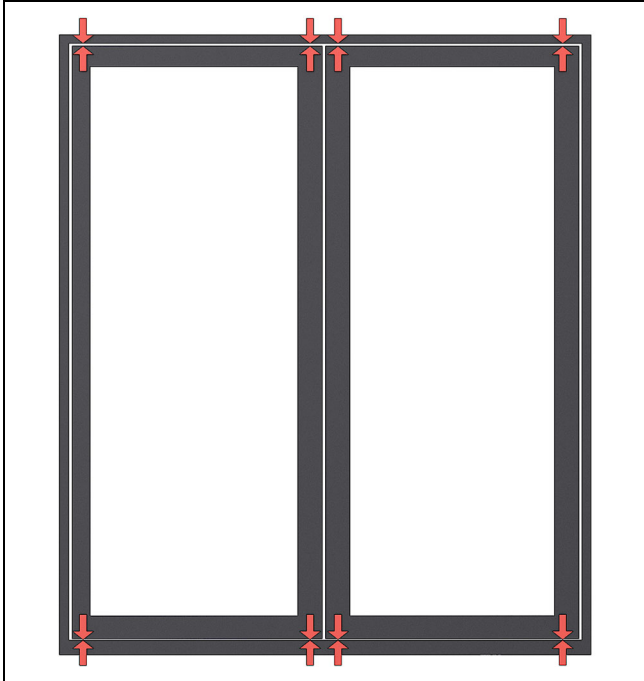

Figure 62
1. Adjust your hinges vertically until you have consistent reveals along the top and bottom of the panels. See Figure 62.